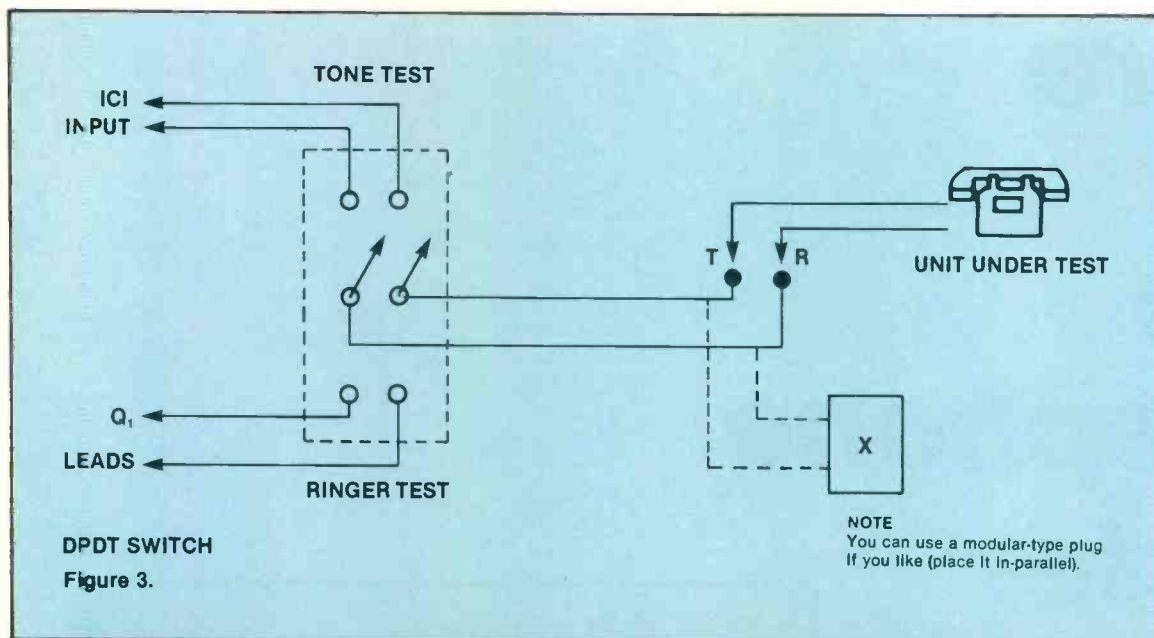

Figure 3. Connect the tester to the telephone as shown here in order to perform tests.
1.) Connect the telephone under test to the T and R pins. (See Figure 3 for connections.)